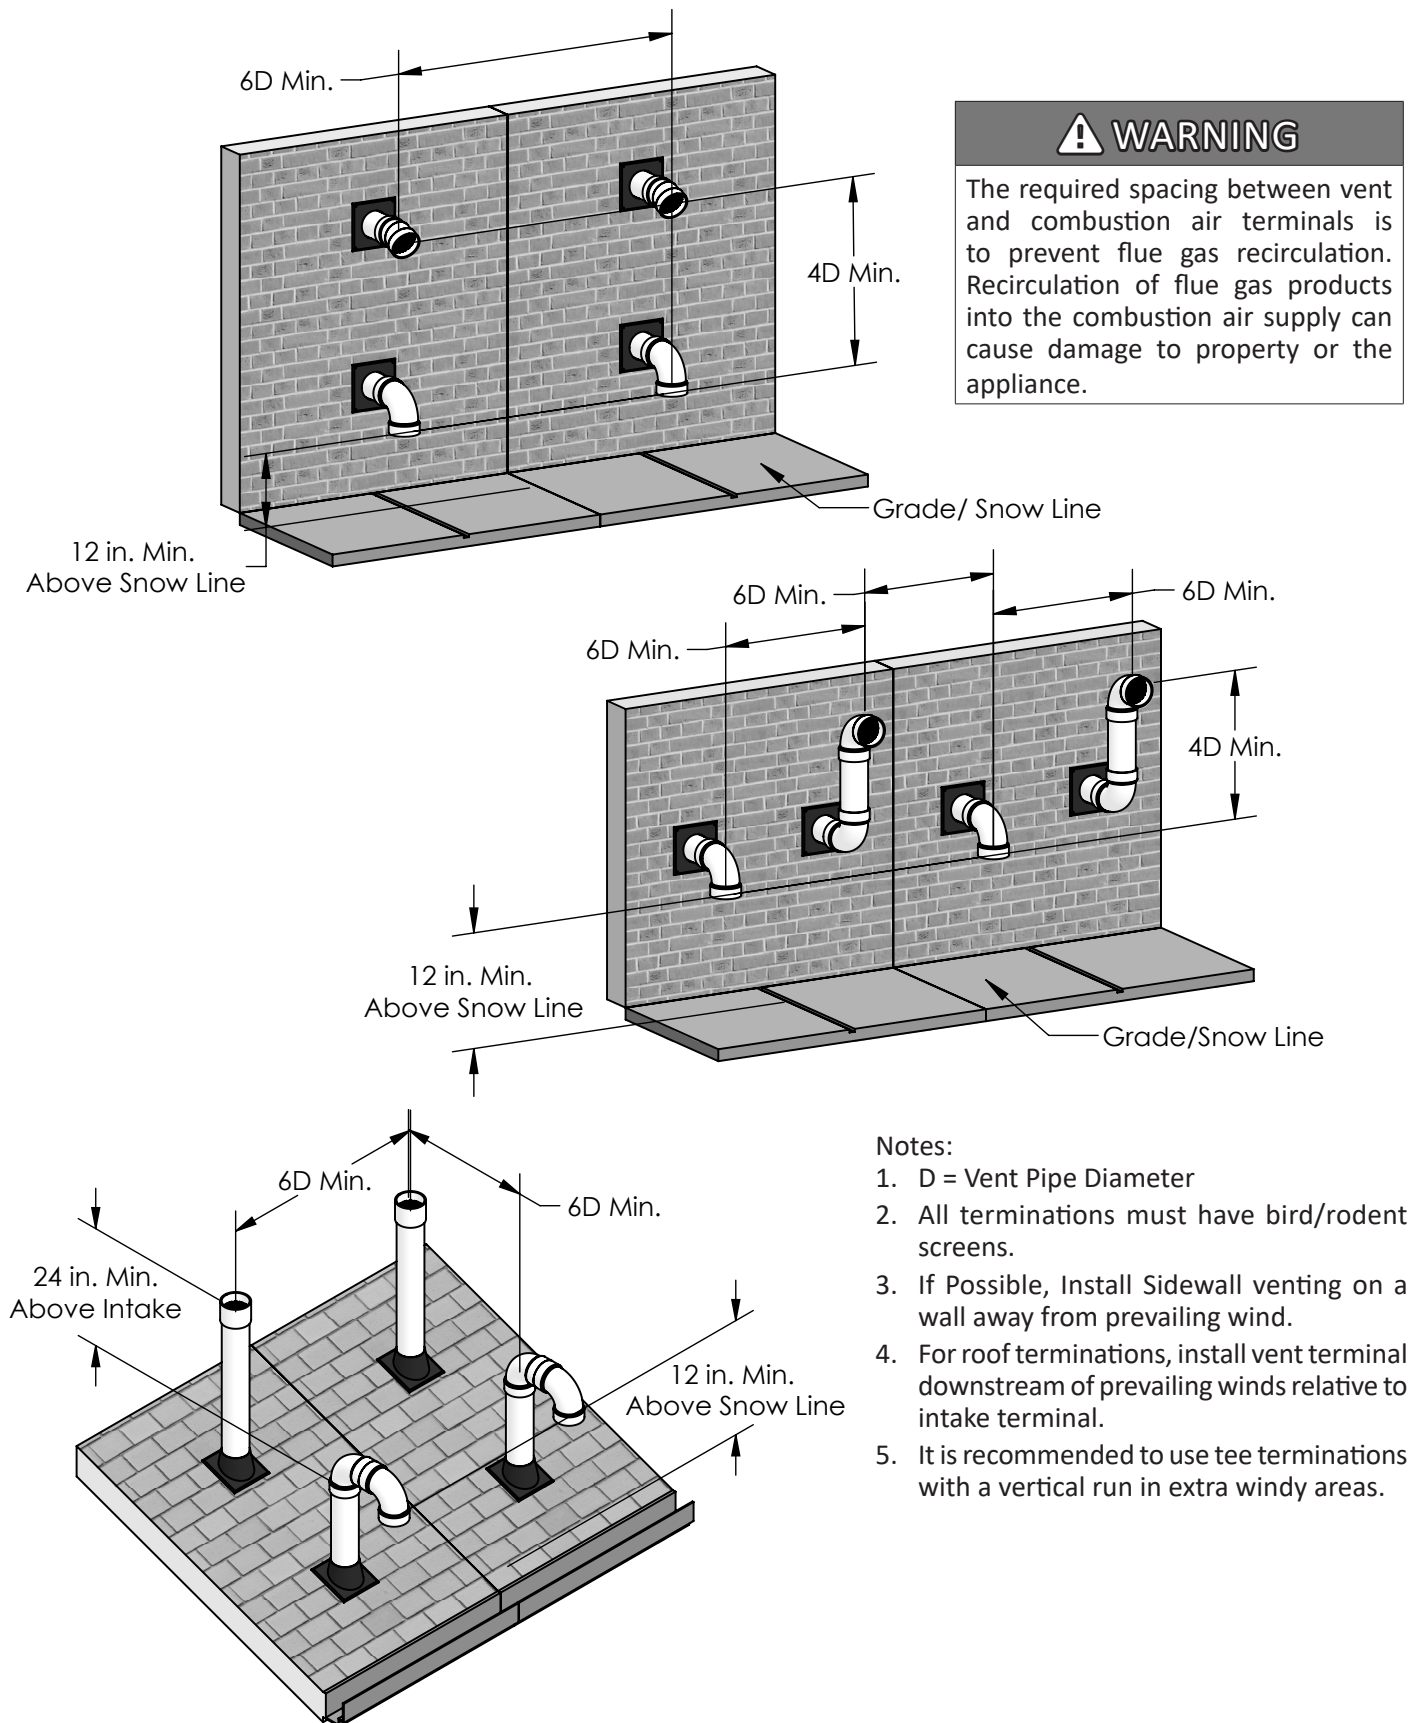

Figure 9: Multiple Appliance Direct Vent Termination
- a. Multiple appliance vent terminations are shown in Figure 9.
- a. Multiple appliance combustion air terminations are shown in Figure 9.